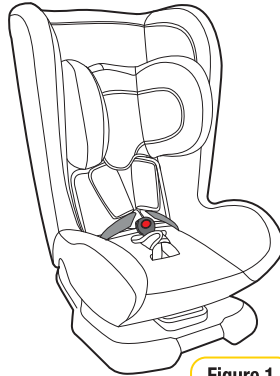

Figure 1
- Step 1:** Remove the insert/s to access the seat cover (refer Figure 1).